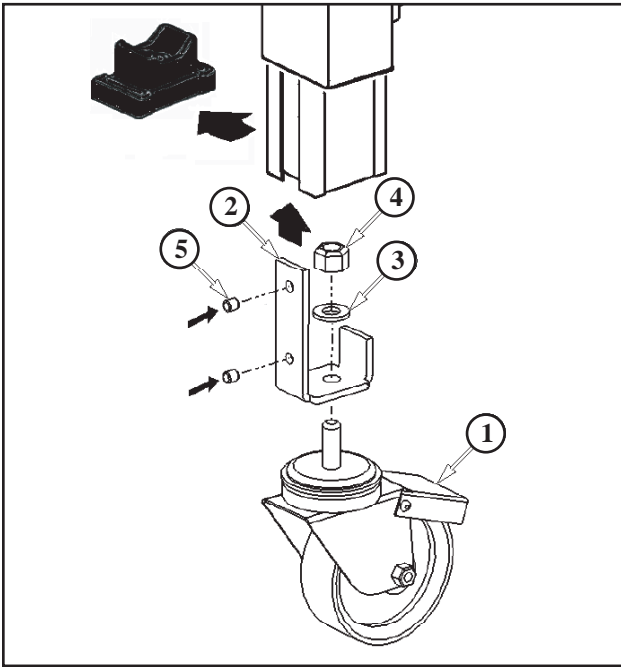

Figure 1 Caster Parts Illustration
1. Place bracket and lockwasher over caster stud and tighten nut onto stud as shown in **Figure 1**. Repeat for the remaining caster assemblies.
4. Remove the supports and allow the case sealer to rest on the four (4) casters.
* Includes two (2) set screws. See reference number 5 in **Figure 1** and the Replacement Parts List.
1. Refer to Parts Illustration Figure 1 to find part needed and reference number.